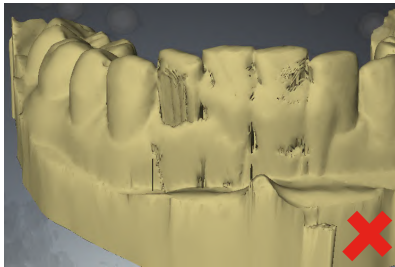

Figure 6: Distortions in the surface data
- Distortions (please see figure 6)